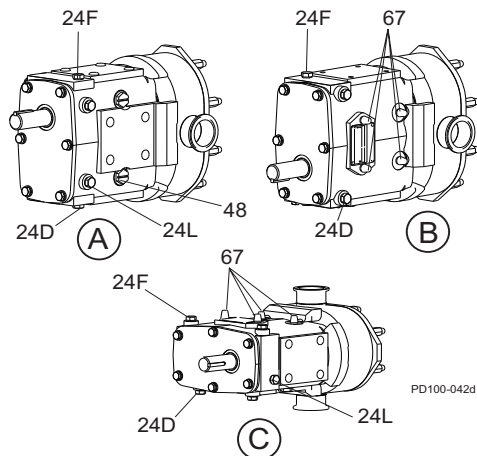

Figure 30 - Lubrication Points
Excess grease will accumulate in the gear case and must be removed through the cleanout hole covered with a plastic plug (Figure 30, item 48). Check the cleanout plugs for any collection of gear oil.